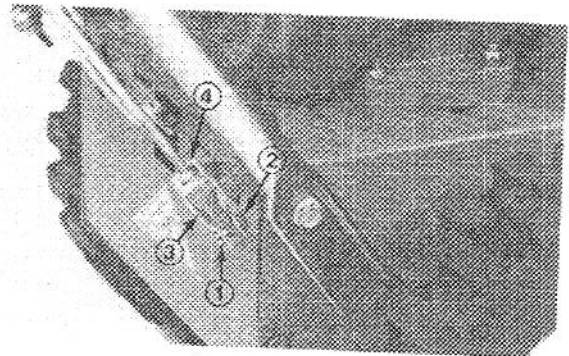

Figure 27
2. Remove cotter pin and clevis pin securing clevis to lower control rod (Fig. 27).